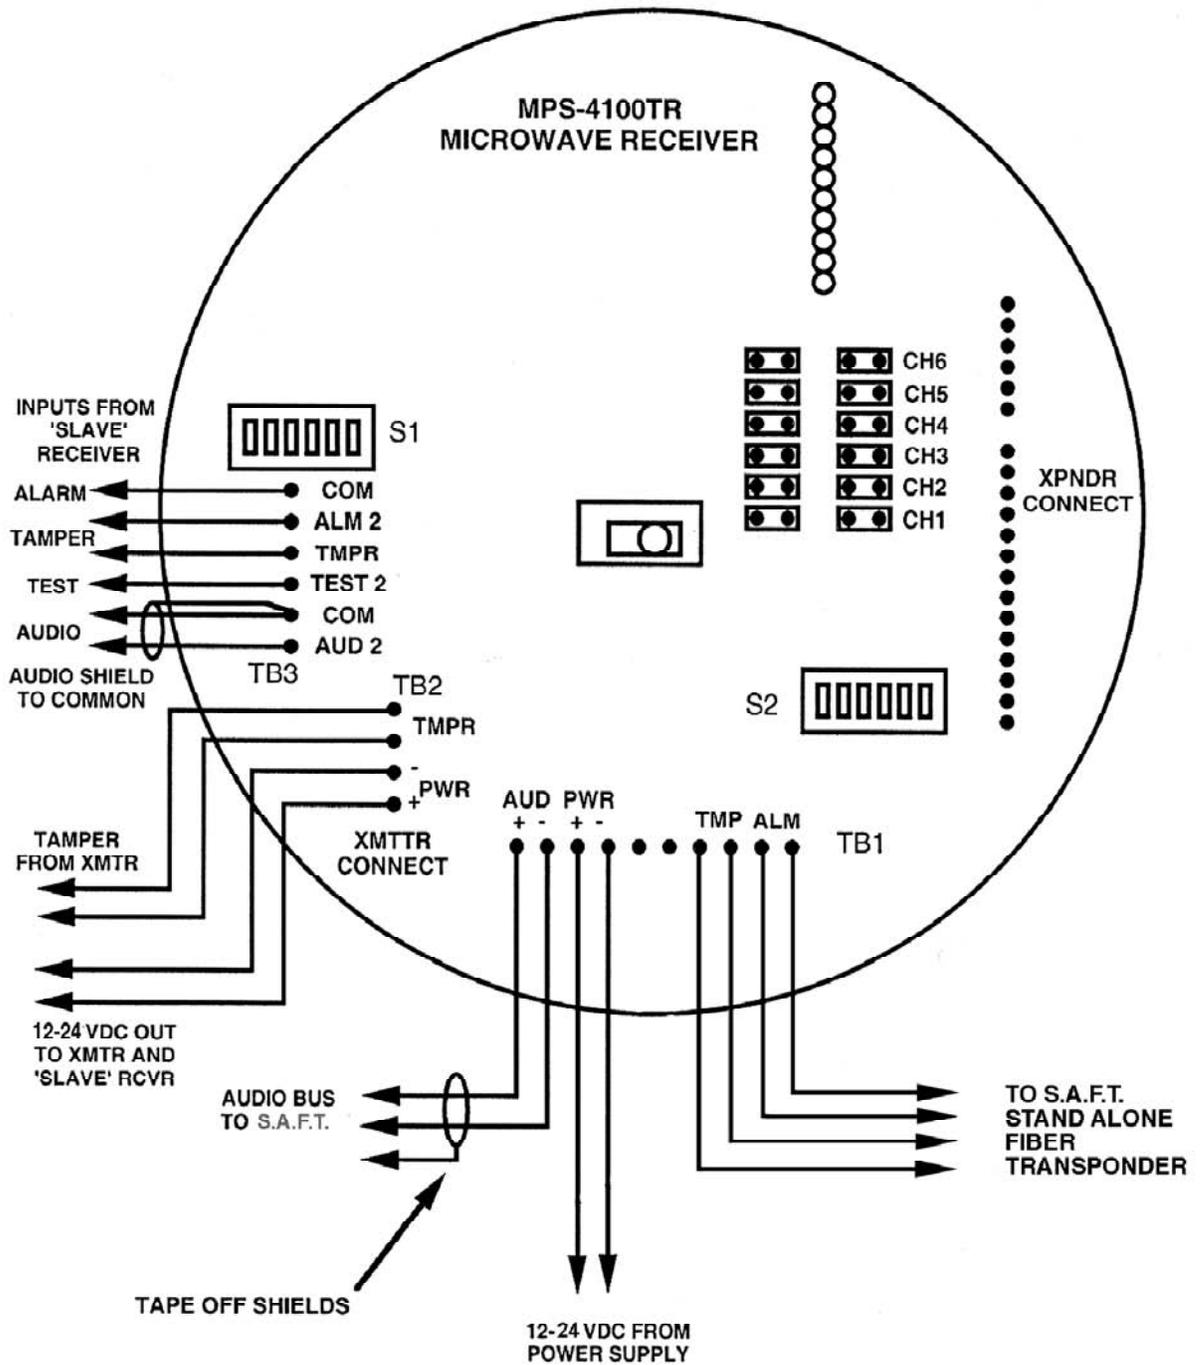

Figure 7. MPS Connections
- Run interconnecting cables and connect as shown in Figure 7.